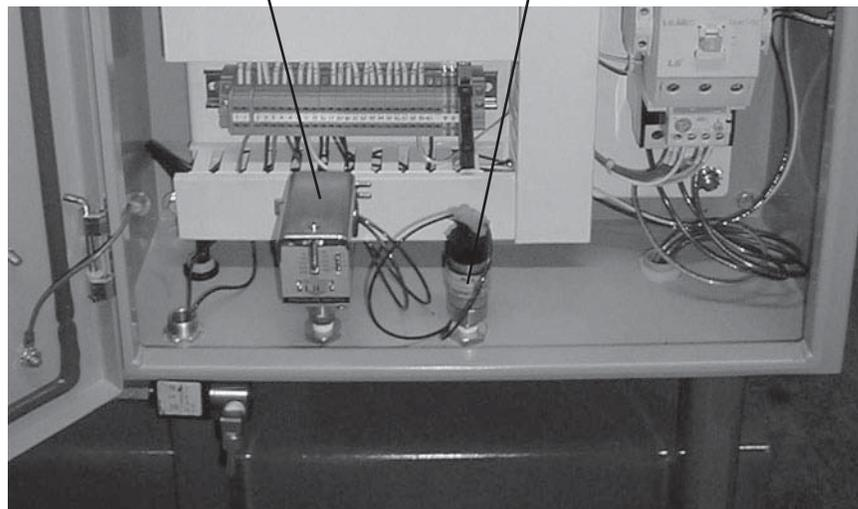

Figure 21b: Unloader Control Pressuer Switch Adjustments
**Suction Pressure Switch** - This switch is set at the factory at the design value setpoint to prevent the compressor from operating under low suction pressure conditions. The switch is field adjustable and may require fine tuning to actual inlet pressure conditions (see Figure 21b). The sensing line should be routed from a nearby inlet receiver tank directly to the switch. Contact the factory if adjustments of more than 5% are required.
**Discharge Pressure Switch** - This switch commonly has two adjustments: one for the discharge pressure setpoint and the other for deadband (the range of falling discharge pressure before the compressor loads again). Both can be fine tuned to process requirements (see Figure 21b). Avoid narrow deadbands which result in frequent cycling of the compressor (load/unload). The sensing line should be routed from a nearby discharge receiver tank directly to the switch. Contact the factory if adjustments of more than 5% are required.